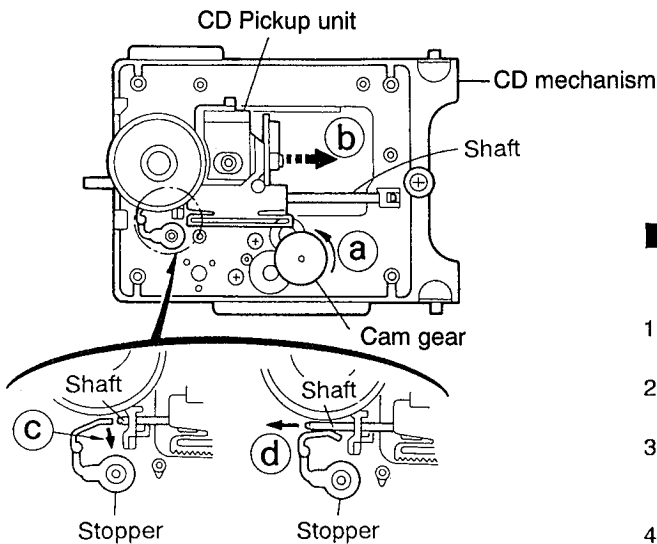

Fig.5-47
Removing the CD pickup unit (See Fig.5-47)
1. Move the cam gear in the arrow direction ①. Then, the CD pickup unit will be moved in the arrow direction ②.
2. According to the above step, shift the CD pickup unit to the center positor (See Fig.5-47).
3. While pressing the stopper retaining the shaft in the arrow direction ③, pull out the shaft in the arrow direction ④ (See Fig.5-47).